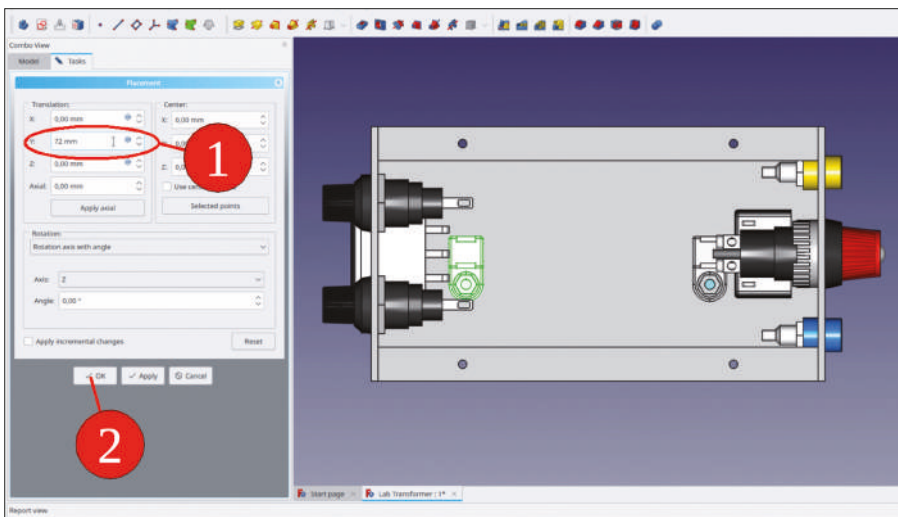

Figure 9-92
5. In the tree view, mark 'Anchor Plate 002'. In the property list, set 'Link transform' to 'true'. With this, the further 'Link placement' parameters can be specified relative to the parent part. Open the 'Link placement' task window by clicking on the  button in the 'Link placement' edit field. Set the Y translation to 72 mm (Figure 9-92).